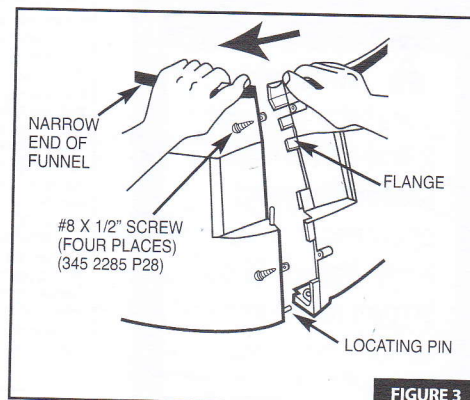

FIGURE 3
opening facing up. Align both halves and press locating pin of funnel half into locating hole on adjacent funnel half. See figure 3. Using two (2) #8 x 1/2" screws, fasten both halves together.
**NOTE:** Flange on funnel half overlaps outer surface of adjacent funnel half as shown in figure 3.